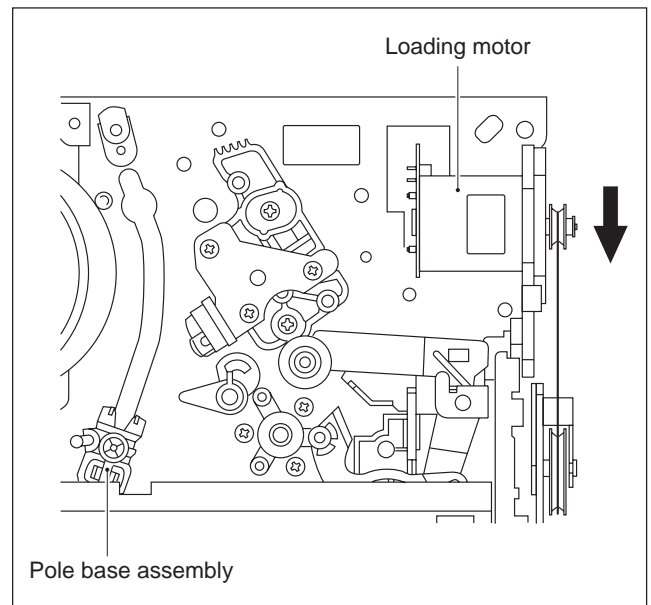
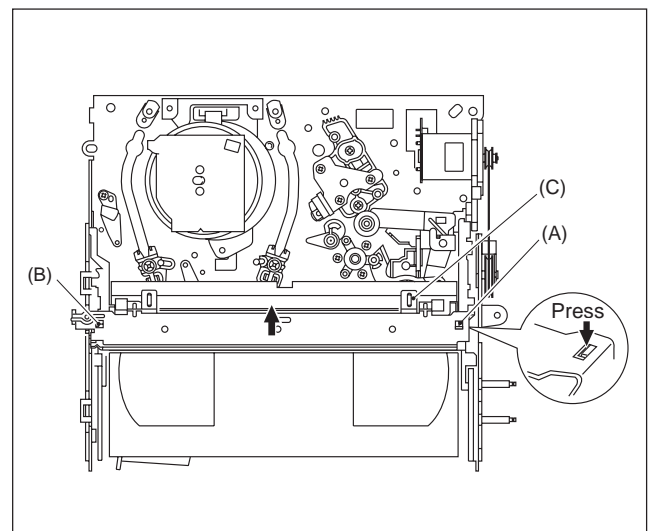

Fig.3-1-4a
Fig.3-1-4b
- (1) Unplug the power cord plug from the power outlet.
- (2) Refer to the disassembly procedure and perform the disassembly of the major parts before removing the drum assembly.
- (3) Unload the pole base assembly by manually turning the loading motor of the mechanism assembly toward the front. In doing so, hold the tape by the hand to keep the slack away from any grease. (See Fig.3-1-4a.)
- (4) Bring the pole base assembly to a pause when it reaches the position where it is hidden behind the cassette tape.
- (5) Move the top guide toward the drum while holding down the lug (A) of the bracket retaining the top guide. Likewise hold part (B) down and remove the top guide. Section (C) of the top guide is then brought under the cassette lid. Then remove the top guide by pressing the whole cassette tape down. (See Fig.3-1-4b.)
- (6) Remove the cassette tape by holding both the slackened tape and the cassette lid.
- (7) Take up the slack of the tape into the cassette. This completes removal of the cassette tape.